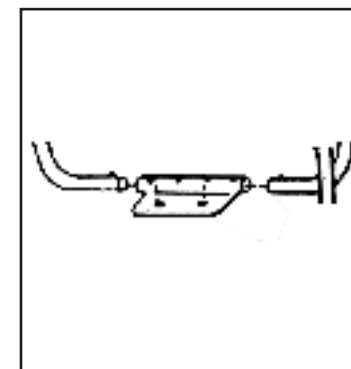

Figure 2
4. Insert side frames into bracket. Depress detent button and slide side frame into desired position (Figure 2).